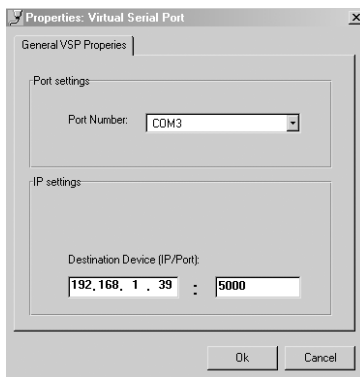

Figure 9: The Virtual Serial Port Properties Window
3. Press the **Add VSP** button to add a serial port and type the IP settings according to the IP address and local port of your **VS-161HDMI** (see Figure 9).